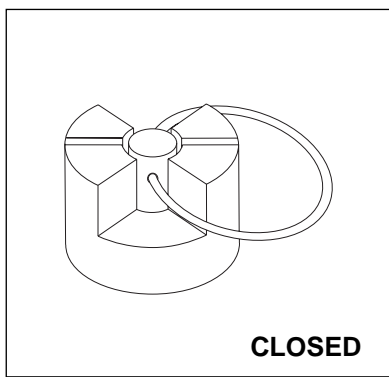

Figure 5.16
4. Open pressure relief valve on water canister to de-pressurize the system (Figure 5.16 and 5.17).